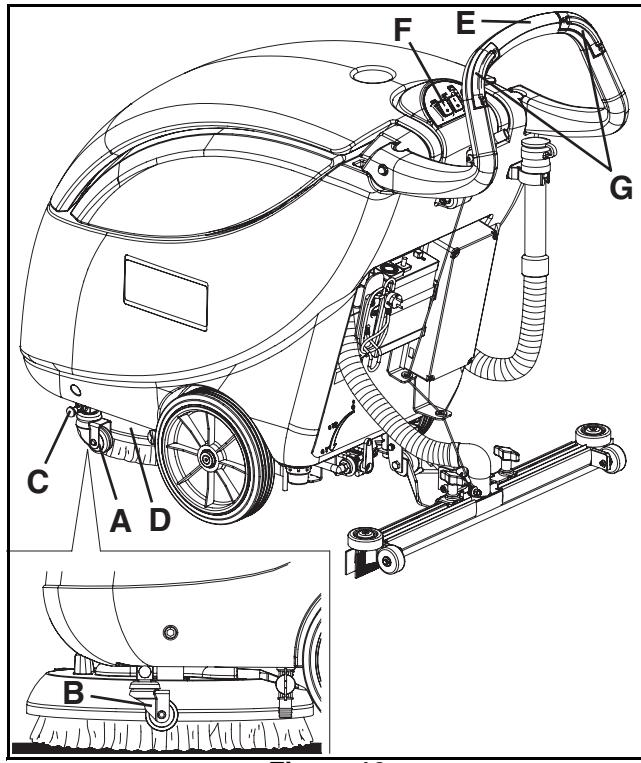
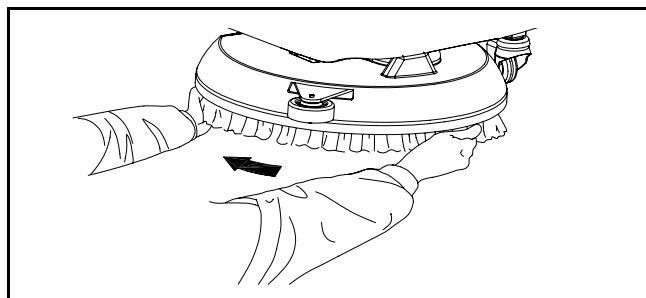

Figure 12
Figure 13
3. Deactivate the transport/parking device (A, Fig. 12) by putting it in position (B) after inserting the relevant pin (C).
4. Lift the brush cover (D, Fig. 12) by prying the handlebar (E).
6. Lower the cover (D, Fig. 12) by means of the handlebar (E).
7. Press the brush push-button on "I" (Fig. 12, F), then press on or both push-buttons (Fig. 12, G) for a few seconds. If the hooking operation is difficult, manually rotate the brush/pad-holder counterclockwise (Fig. 13).